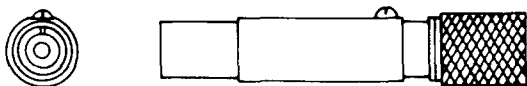

Fig. 10—479A or B Jack
**2.05 479A and B:** These coaxial-type jacks (Fig. 10) are used with the 337-type plugs. These jacks are used, in connection with emergency restoration of service, for making temporary patches in coaxial units in the field. The test voltage for these jacks is 2000 volts ac.